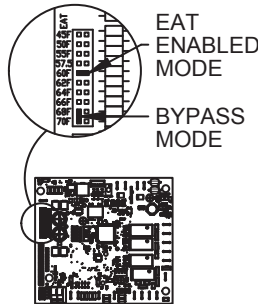

Figure 1
- a. **On EDSM and EDSM/TP control systems**, if the remote control station hasn’t been tested and the ambient temperature is at or above the Entering Air Thermostat (EAT) set point, note the set point position and pull the jumper off the temperature set point (EAT Enabled Mode) and reinstall it sideways on the terminal block (Bypass Mode) as shown in Figure 1. Refer to the Individual Component Description section for additional information.